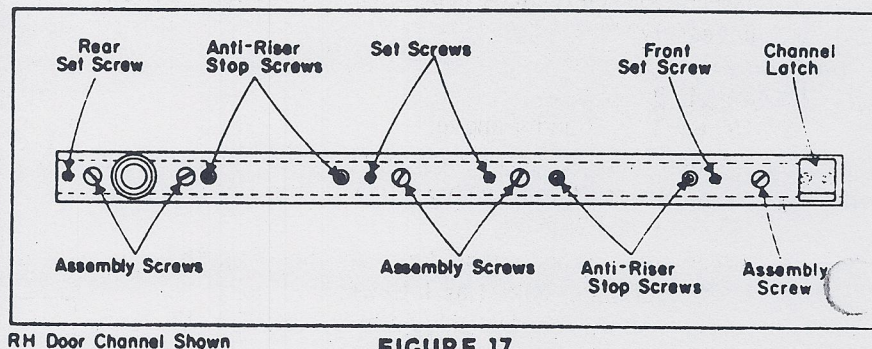

FIGURE 17
4. Loosen both the assembly screws and set screws in the bottom of the channel approximately one (1) turn each. See Fig. 17.
5. Tighten rear set screw only. **NOTE:** If still necessary, further loosen the assembly screws. See Fig. 17.
9. Tighten front set screw only. **NOTE:** If still necessary, further loosen the assembly screws. See Fig. 17.
1. Loosen rear assembly screw. See Fig. 17.
2. Tighten rear set screw until door is parallel. See Fig. 17.
- c. Turn anti-riser stop screws clockwise until resistance is met and then back off 1/4 turn. See Figure 17.